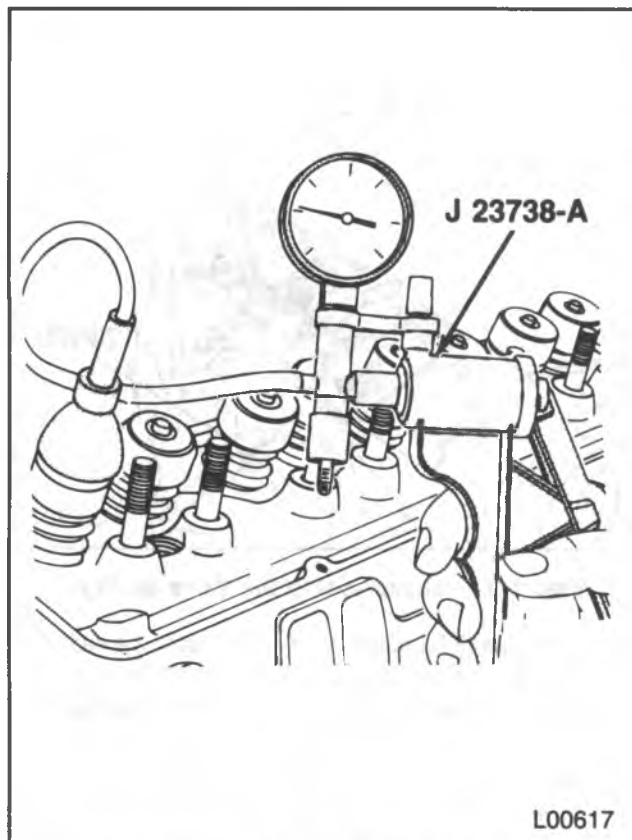

Figure 7 — Testing the Valve Seals
- Check each O-ring seal for leakage (figure 7).